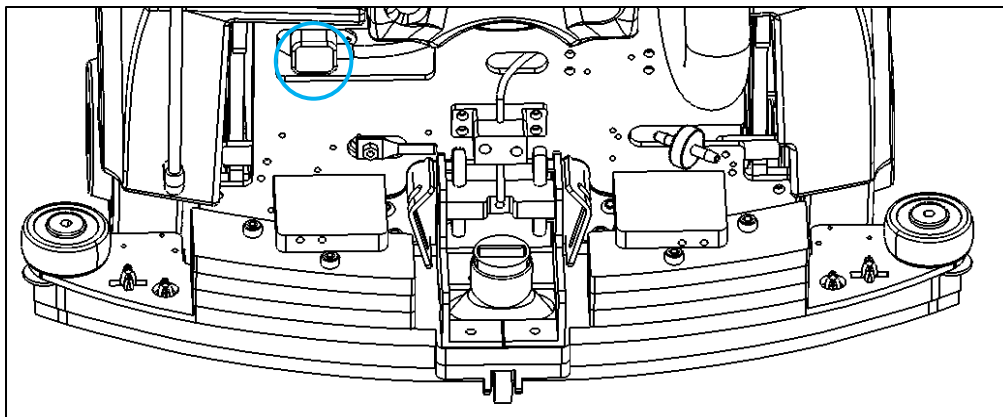

Fig. 1
1. Pull out the power cable from the battery port (Fig. 1 highlighted).